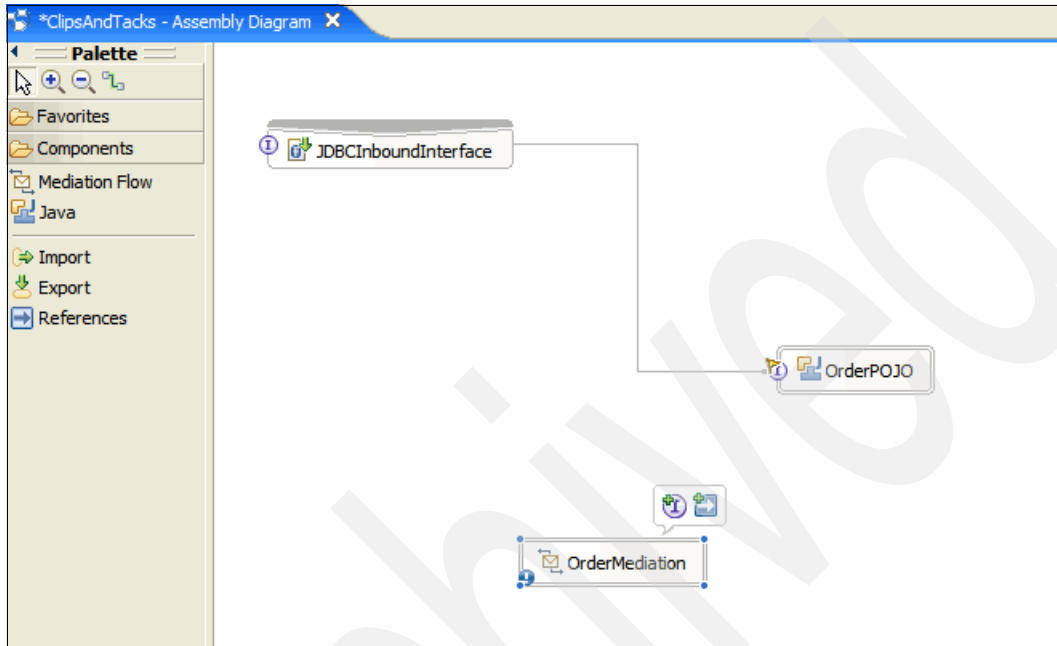

Figure 6-74 Adding the *OrderMediation* mediation flow
1. Go back to the assembly diagram. Click the **Mediation Flow** icon on the palette and add it to the canvas. Rename the mediation flow component **OrderMediation** (Figure 6-74).